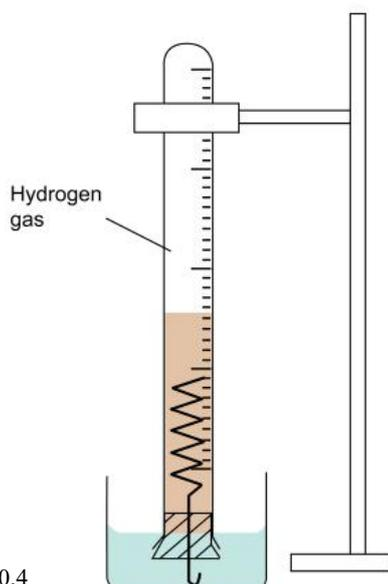

Figure 40.4
7. When the reaction is complete, as shown in Figure 40.4, allow a few minutes for the solution and hydrogen to come to room temperature. Tap the tube gently to dislodge any gas bubbles that are still attached to the coil or to the sides of the gas measuring tube.